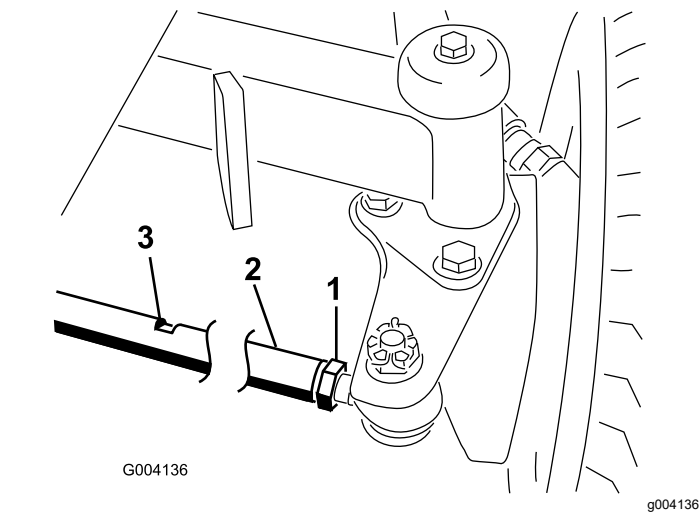

Figure 63
- 2. Loosen the jam nut on each end of the tie rod (Figure 63).
- 3. To pivot the wheels, rotate the tie rod to by turning it at the wrench flats (Figure 63).
- 6. Tighten the jam nut on each end of the tie rod (Figure 63).